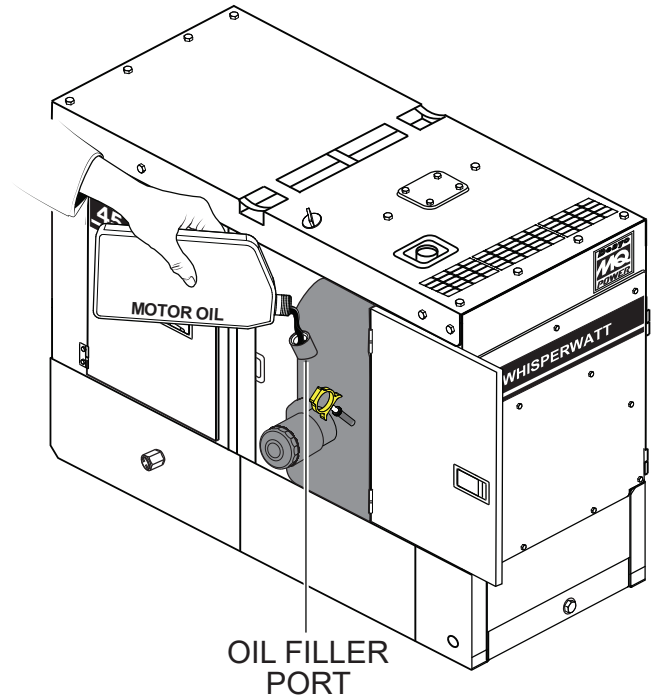

**Figure 29. Engine Oil Dipstick**
3. Reinsert the dipstick, then remove the dipstick from its holder. Check the oil level shown on the dipstick (Figure 29).